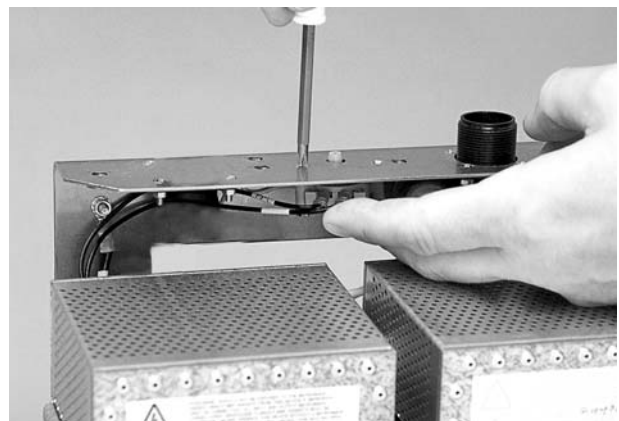

Figure 4-13 Pressure Switch Removal
3. See Figure 4-13. Remove the screws securing the pressure switch to the insulating plate.